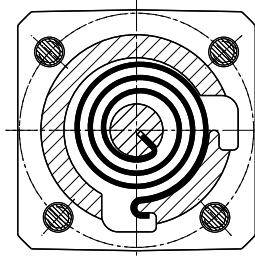

Fig. 1 Fitting position of closing springs with "tending side right". (standard version)
4.2.3 Closing springs (31)
- Spring housing (33) contains two support grooves that take up the closing springs. The grooves are needed to take up the springs and provide for the different versions of the device with the "tending side left" or "tending side right".
- Installation: First insert the closing springs into spring housing (33). Make sure you position the springs exactly as shown in figs. 1 and 2.
- The closing springs are properly tensioned when all four fastening screws (32) can be installed inside the housing (about half turn of spring housing). The valve flap must be closed during the procedure.